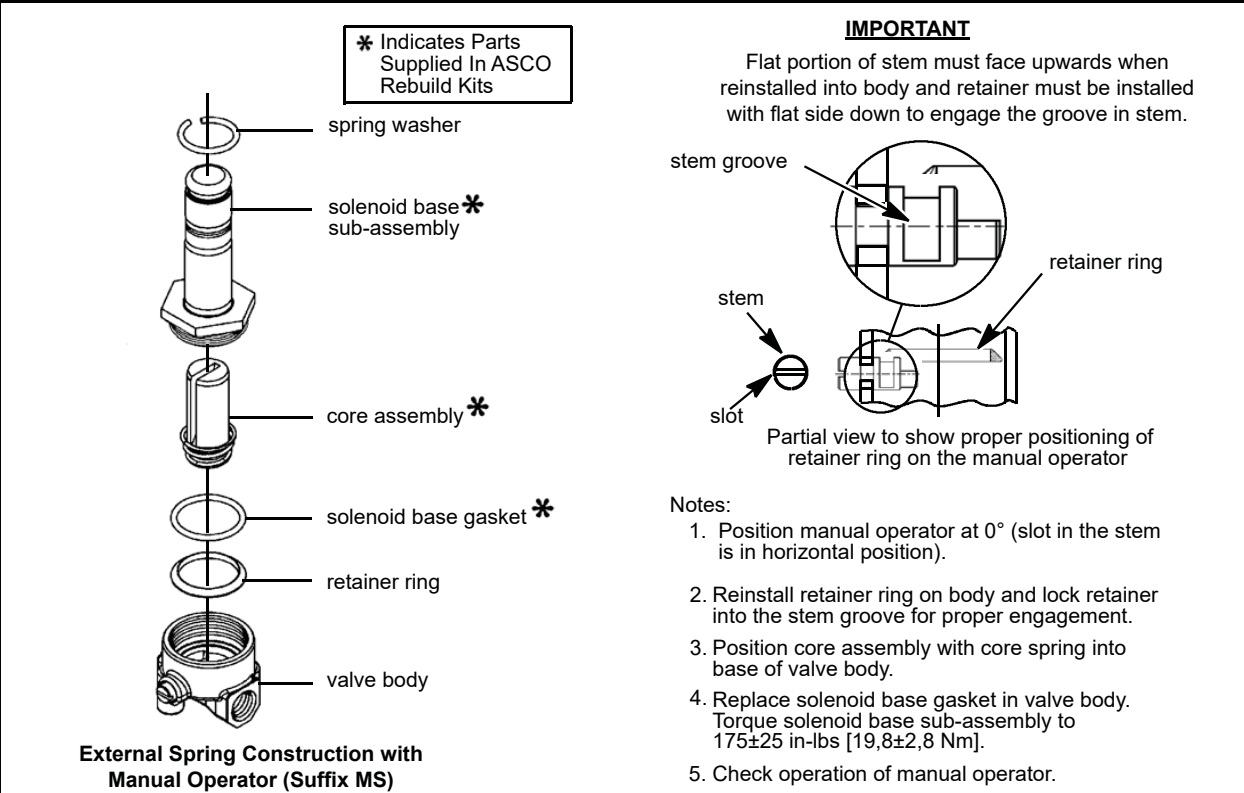

Figure 3. manual operator
Disassembly and Reassembly of Manual Operator (Refer to Figure 3)
- **Panel Mounted Construction:** These solenoids are specifically designed to be panel mounted by the customer through a panel having a .062 to .093 maximum wall thickness. (Refer to Figure 3 and section on *Installation of Panel Mounted Solenoid*).
Installation of Panel Mounted Solenoid (See Figure 3)